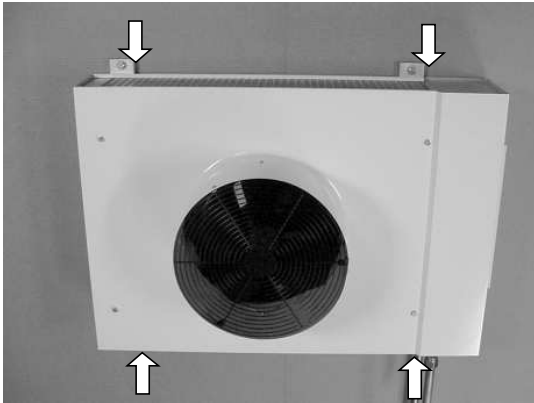

Figure 1
2. Secure the fan heater to the ceiling with four screws through the brackets as shown in Figure 1. For drilling template for the heater with minimum distance from the wall, see Appendix B2.